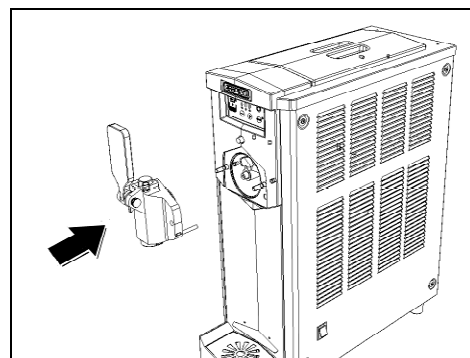

Fig. 31
- Refit the flange so that the locating pin mates with its seat (fig. 31).